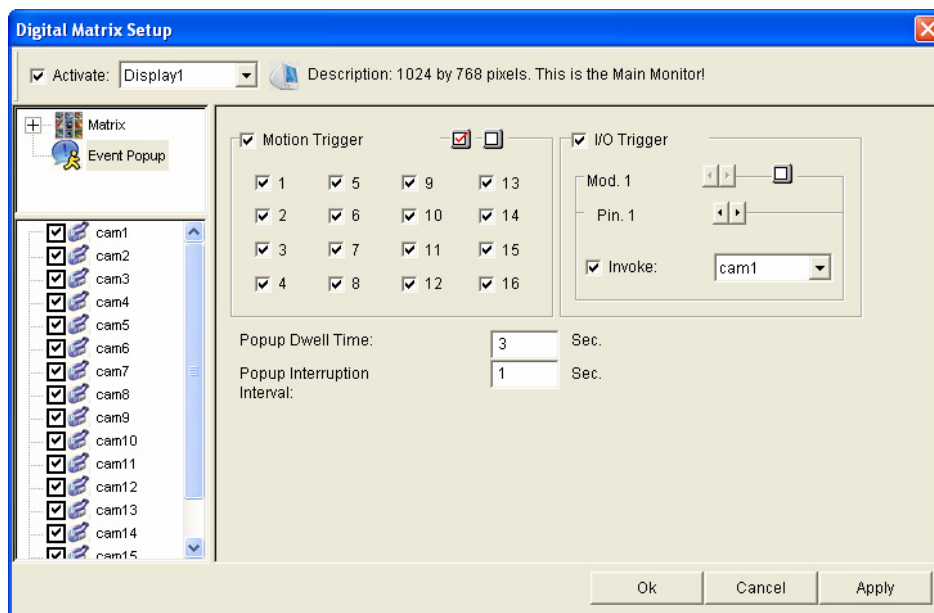

Figure 3-31
2. To configure pop-up alert, in the upper left column, click **Event Popup**. Figure 3-31 appears.